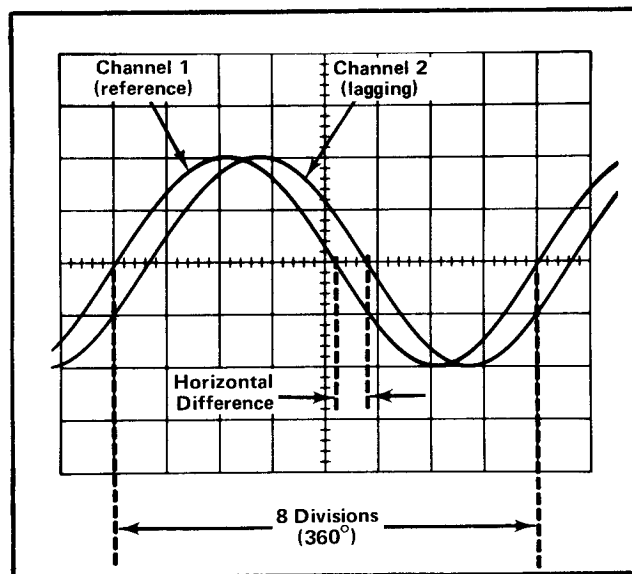
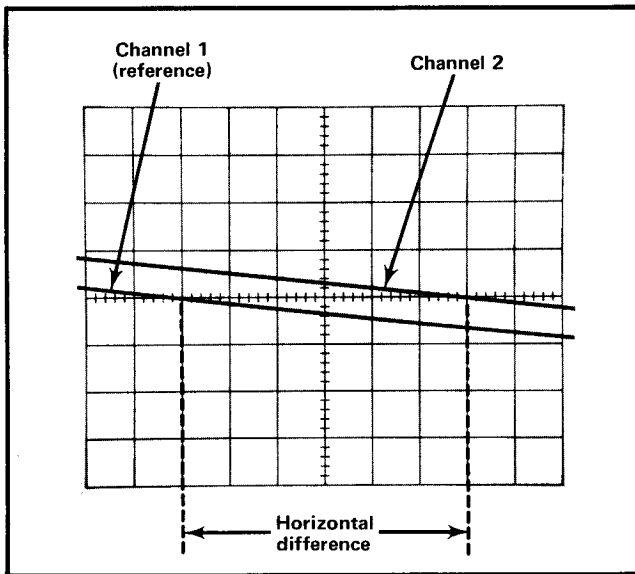

Fig. 2-27. Measuring phase difference.
Fig. 2-28. High resolution phase-difference measurement with increased sweep rate.
10. Turn the A VARIABLE control until one cycle of the reference signal (Channel 1) occupies exactly eight divisions between the first and ninth graticule lines (see Fig. 2-27). Each division of the graticule represents 45° of the cycle ($360^\circ \div 8 \text{ divisions} = 45^\circ/\text{division}$). The sweep rate can be stated in terms of degrees as 45°/division.
Example. Assume a horizontal difference of 0.6 division with a sweep rate of 45°/division as shown in Fig. 2-27.
Example. If the sweep rate were increased 10 times with the magnifier, the magnified sweep rate would be $45^\circ \div 10 = 4.5^\circ/\text{division}$. Fig. 2-28 shows the same signals as used in Fig. 2-27 but with the MAG switch set to X10. With a horizontal difference of 6 divisions, the phase difference is: